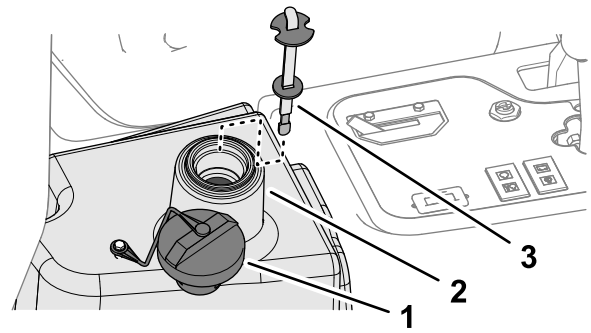

Figure 91
4. Fill the reservoir (Figure 91) with approximately 22.7 L (6 US gallons) of hydraulic fluid; refer to Hydraulic Fluid Specifications \(page 59\).